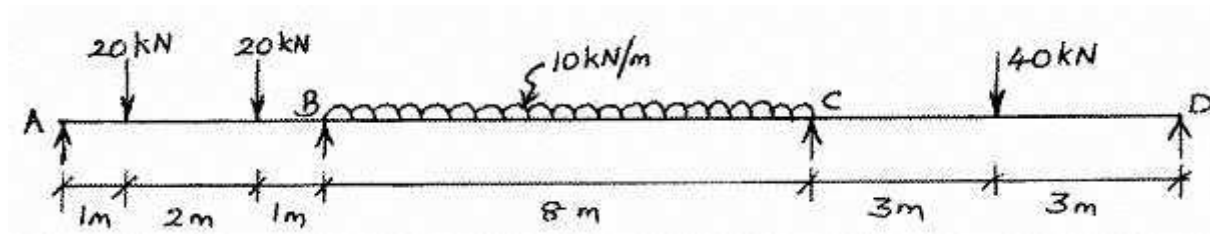

Figure 2:
4. Determine the support moments and reactions for the three span continuous beam shown in Figure 2 using Clapeyron's theorem of three moments. Assume EI as constant. Also sketch the BMD and SFD. [16]